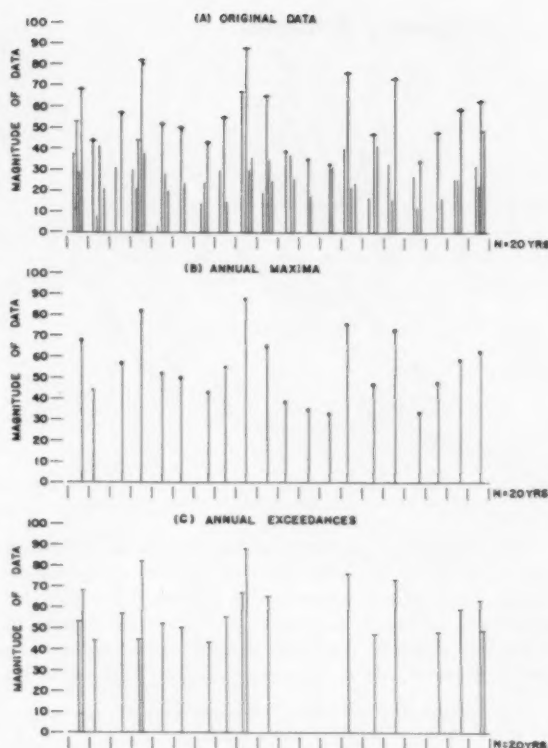
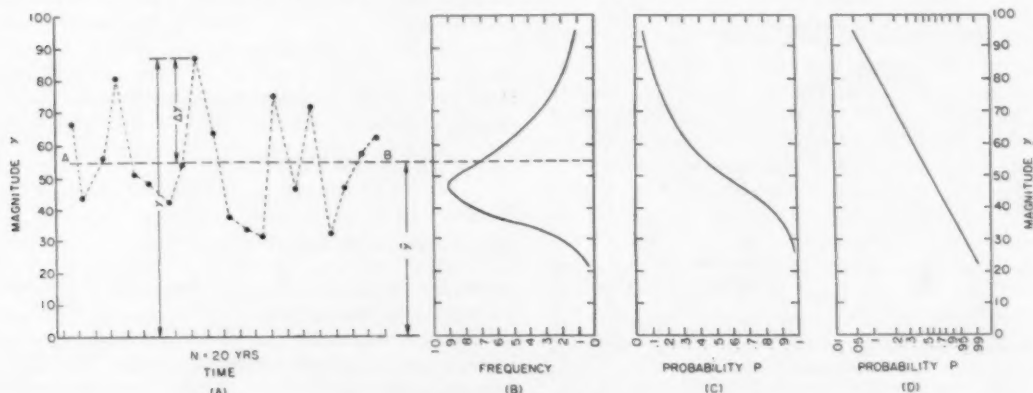

Fig. 1 Hydrologic data arranged in the order of occurrence
Fig. 2 Frequency distribution
An assembly of the solutions is shown in Figs. 2 and 3. Vines trailing to the ground were elevated to clear the cutter bar. The clusters, cut by the cutter, fell through a blast of cleaning air and were then conveyed rearward. At the rear of the side conveyor a second air discharge was available. The crop was then either elevated for utilization as wine grapes or spread and deposited onto a continuous paper tray for processing as raisins.
Cutter Bar — The cutter (Figs. 2 and 3) was a saw chain utilizing a sequence of three chippers and one 53-deg fruit cutter with a 1-in. projection. The saw chain illustrated (Fig. 4) shows a 45-deg fruit cutter because subsequent investigation by Feller(4) proved that the 45-deg cutter was preferred. The cutter bar was supported near its center of gravity so that a tilt feature could be included. This action permitted the bar to follow all the wires in the trellis even though the cross arms in the trellis varied ± 10 deg from the horizontal. A double reciprocating sickle with 2-in. knife sections was also used(5).
Cutter Bar Protection — Ultimate protection for the cutter bar was provided by the closed accumulator circuit shown in Fig. 2. This system maintained 100 lb-ft of torque on the bar carrier. Whenever the cutter bar was driven into an obstruction (grape stake) the tip of the bar was dragged across the interference point. With this system the cutting action was continuous and the bar returned to its normal position as soon as the obstruction was passed.
Fruit Spreader — The lay of fruit on the tray was not to exceed a depth of one cluster diameter. To accomplish this, the fruit was discharged from the rear conveyor to one side of the spreader conveyor (Figs. 2 and 3). The spreader then moved fruit that was more than one cluster diameter deep to the empty portion of the spreader conveyor.
Trash Removal — A centrifugal blower provided 150 cfm of air at a discharge velocity of 1500 fpm (Fig. 2). Although the percentage of trash (Fig. 1) may be acceptable at a winery, additional cleaning is needed for raisins. Loose leaves were largely removed by an air carrier, but trash attached to fruit stems remained with the fruit. Improved vine training practice and long-stem varieties will provide a solution.
Fig. 1(A) exhibits a set of runoff data from a watershed observed in 20 years and plotted in a chronological order. The magnitude is in cubic feet per second of daily peak discharge. The figure does not show 365 values in each year since the stream is assumed to be non-perennial. Experience has indicated that many of the original data have practically no significant value in the analysis because the hydrologic design of a structure is usually governed by a few of the extreme conditions only. In order to save labor and time in the analysis a portion of the data which is of insignificant magnitude can be excluded. For this purpose, two types of data are generally used in the analysis: the annual maximum values and the exceedance values.
The annual maximum value is the largest of all observations taken in a year. Thus, for 20 years of record there are 20 annual maximum values as shown in Fig. 1(B). The annual exceedance value is the value which is greater than a certain base value. If the base value is selected in such a way that the number of the exceedance values is equal to the number of years of record, then the exceedance values may be called annual exceedance values. Fig. 1(C) shows the annual exceedance values for the 20 years of record. It may be noted that, when annual maximum values are selected, there is possibility of ignoring the effect of the second largest values in each year whose magnitude may outrank many annual maximum values. On the other hand, when exceedance values are selected, the second largest values are included in the analysis, but these values may be so close to each other and to the maximum values in their time of occurrence that one value could affect another which follows closely after. For instance, one flood may set the stage for the next close flood and one storm may disturb the meteorological condition for the subsequent ones. Consequently the selected data are not fully independent events. Logically speaking, the exceedance values should fit the
After the data are selected, it is assumed that they follow a certain pattern of frequency distribution. Take the annual maximum values in Fig. 1(B) as an example and reproduce the plot as shown in Fig. 2(A). The horizontal line AB indicates the position of the mean \bar{y} of all observed data whose magnitude is represented by a variable y . It is evident that any particular value of y can be expressed by
Fig. 2(B) shows a frequency curve for the theoretical distribution which would fit the data in Fig. 2(A). The curve is plotted with the magnitude against the number of items of occurrence or the frequency. The cumulative frequency curve or probability curve corresponding to the frequency curve of Fig. 2(B) is shown in Fig. 2(C). This is plotted with the magnitude against the probability of recurrence of an event equal to or greater than magnitude y .
It is convenient for practical purposes to plot the probability curve, such as that of Fig. 2(C), in a straight line. This can be done by transforming the scale of the ordinate in such a way, as shown in Fig. 2(D), that the curve would appear as a straight line. The construction of a probability paper with this transformed scale to fit a particular law of distribution can be easily understood by examining equation [3]. According to this equation, the magnitude y is a linear function of K . In other words, the curve would appear as a straight line for the theoretical distribution if y is plotted linearly against K . Most observed data will indicate a straight line trend, and hence a straight line of fitness can be determined.